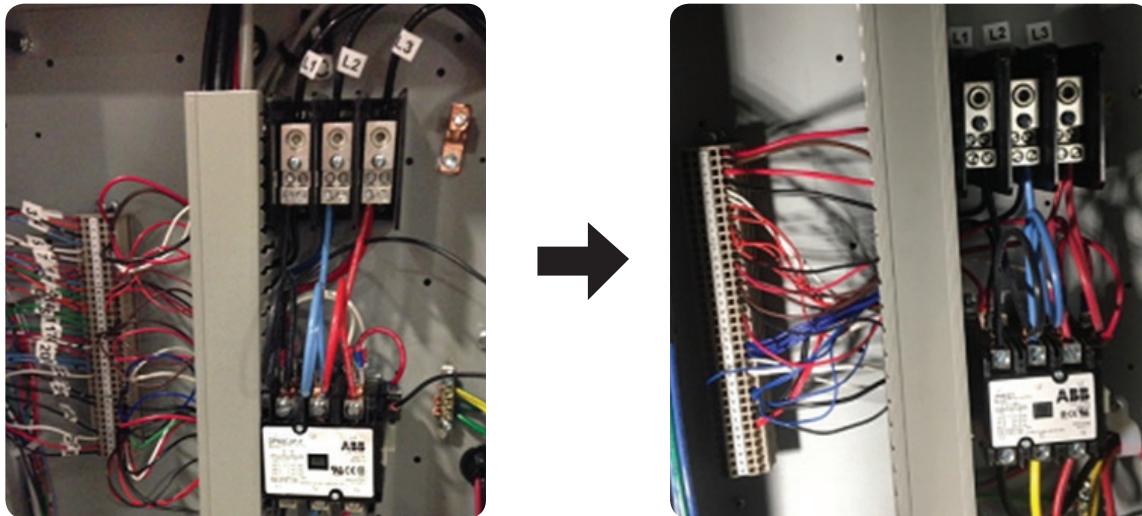

Figure 28. Factory Installed Wire Tags
- Ensure that factory-installed wire tags are in place before removing wires from their terminals (see Figure 28).